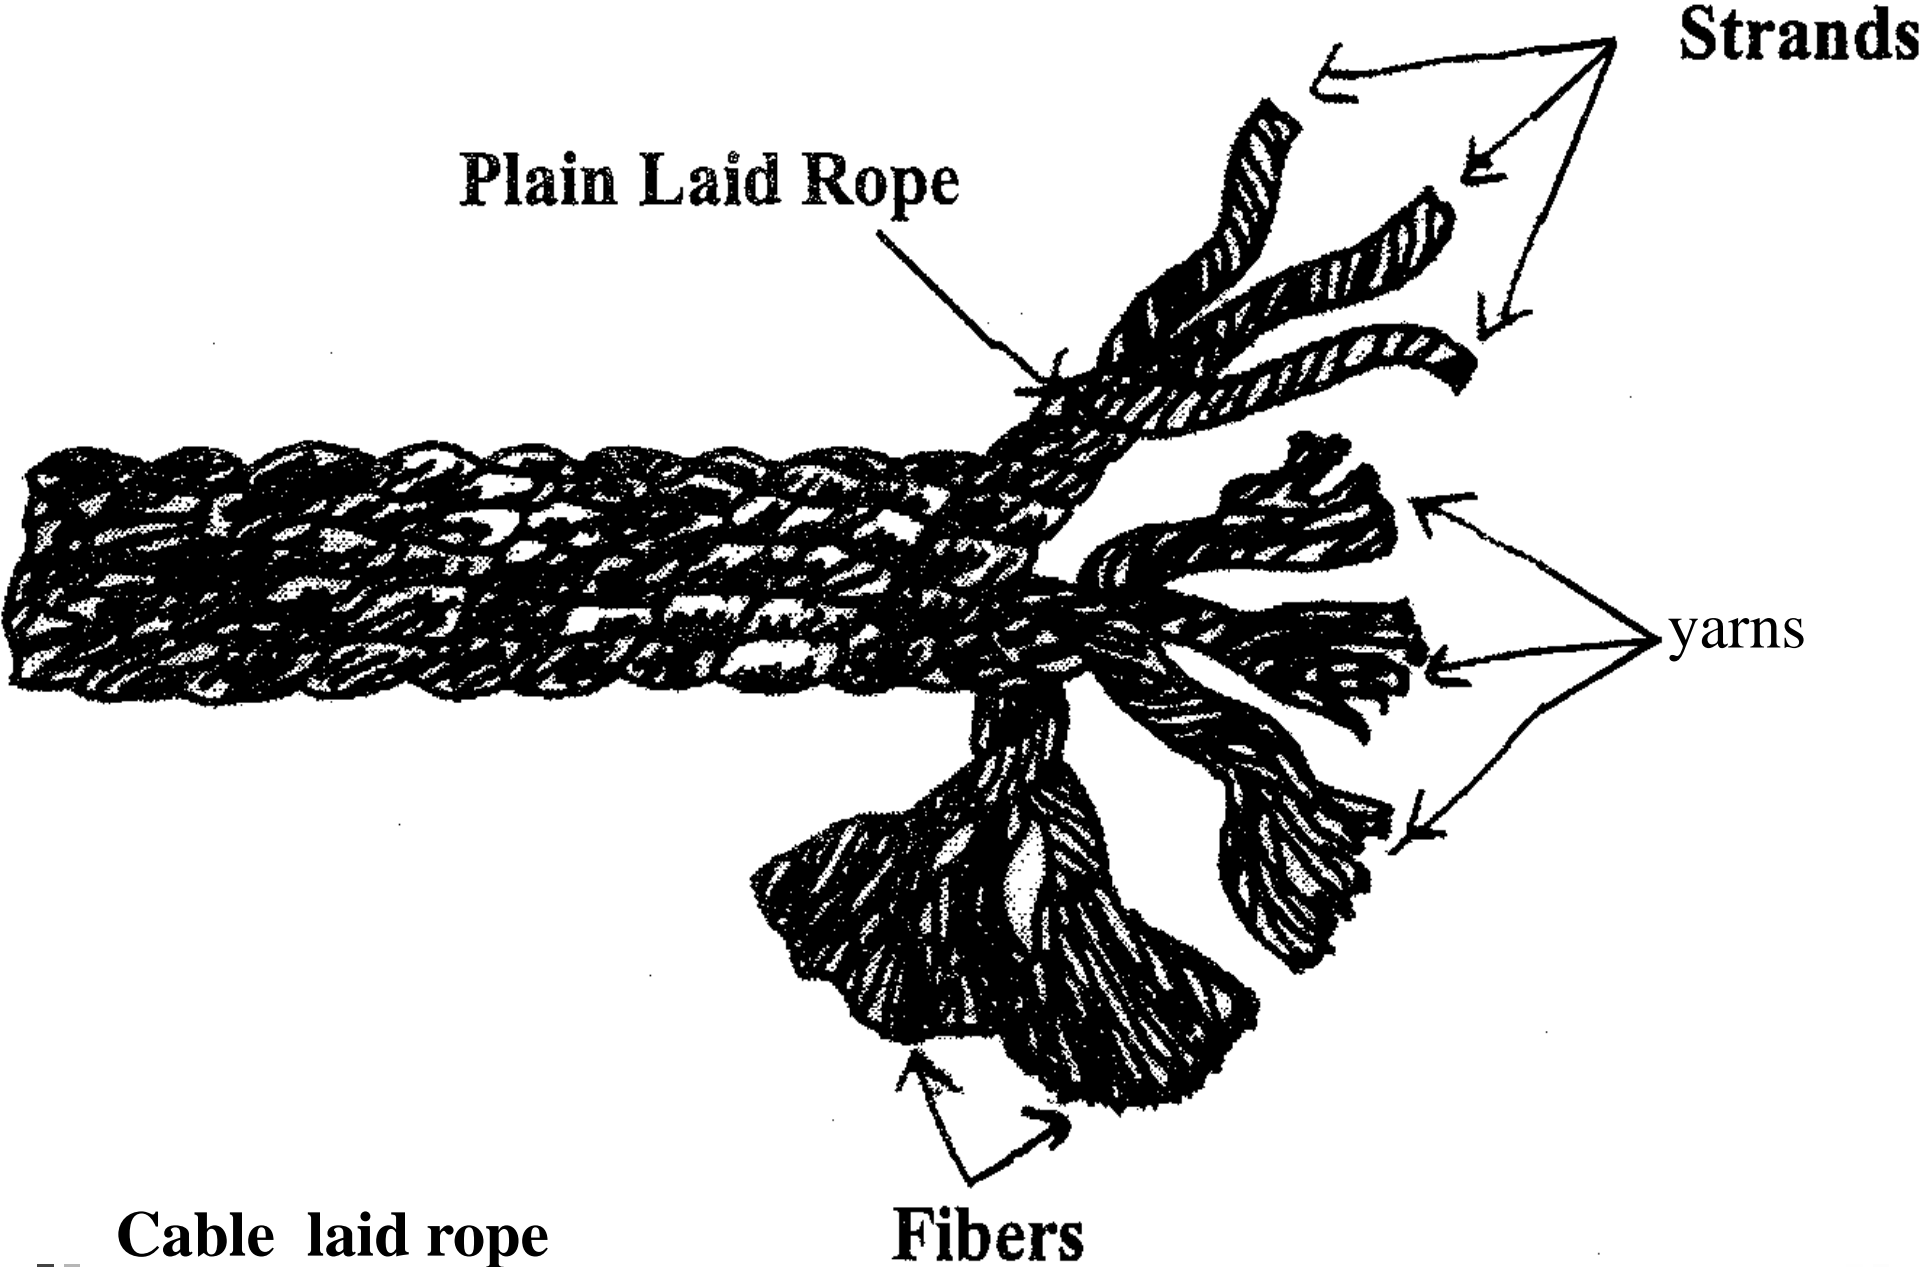

Fig 1. Fibre rope construction
4. A cable laid rope is made by twisting three or more of laid ropes. The construction scheme of laid ropes and cable laid ropes is given in the figure1.